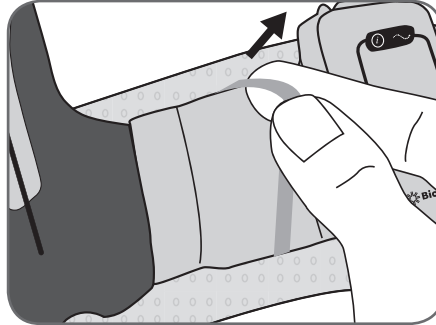

Figure 9-14: Sliding the band on the bottom silicone panel.
3. Slide the band on the bottom silicone panel over the Thigh RF Stim Unit. See Figure 9-14.